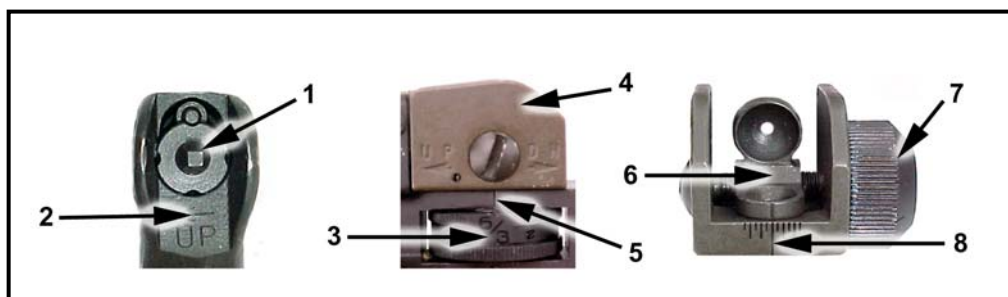

Figure 2-12. M4/M4A1 and M4 MWS mechanical zero.
(1) ***Mechanically Zeroing the M4/M4A1 and M4 MWS.*** Mechanically zeroing the weapon is only necessary when the weapon zero is questionable, the weapon is newly assigned to the unit, or the weapon sights have been serviced. If necessary, the soldier should mechanically zero the weapon as follows (Figure 2-12):